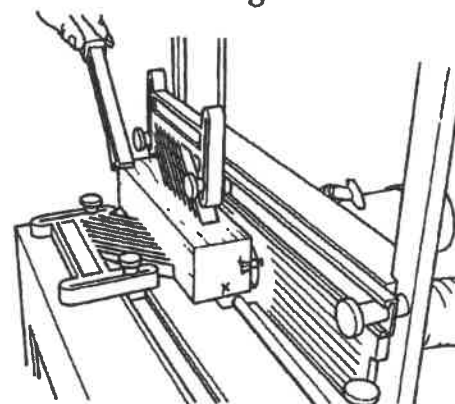

Fig. E-8
5. Turn on the Dust Collector and router. Use a push stick to make the socket cut in the leg, shown in Fig. E-8. Turn off the router and Dust Collector and remove the leg.